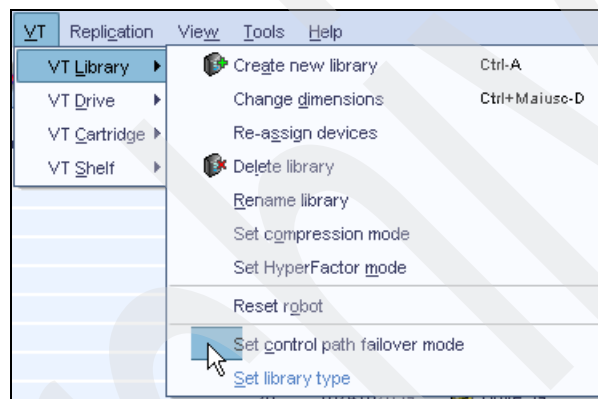

Figure 8-26 Select Control Path Failover
2. Select **VT** → **VT Library** → **Set control path failover mode**. The Set control path failover mode dialog is displayed (see Figure 8-26).